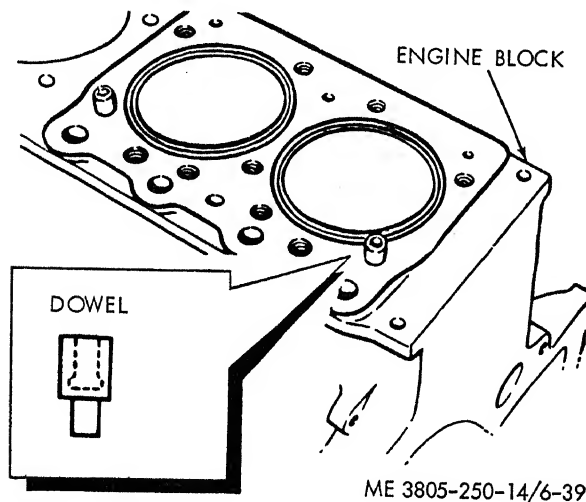

Figure 6-39. Cylinder head installation dowel.
*Note.* Two capscrew holes in the head gasket are slightly smaller and act as guides for positioning the gaskets and fire rings. For difficult installations use dowel A 40953 (fig. 6-39) as a guide.